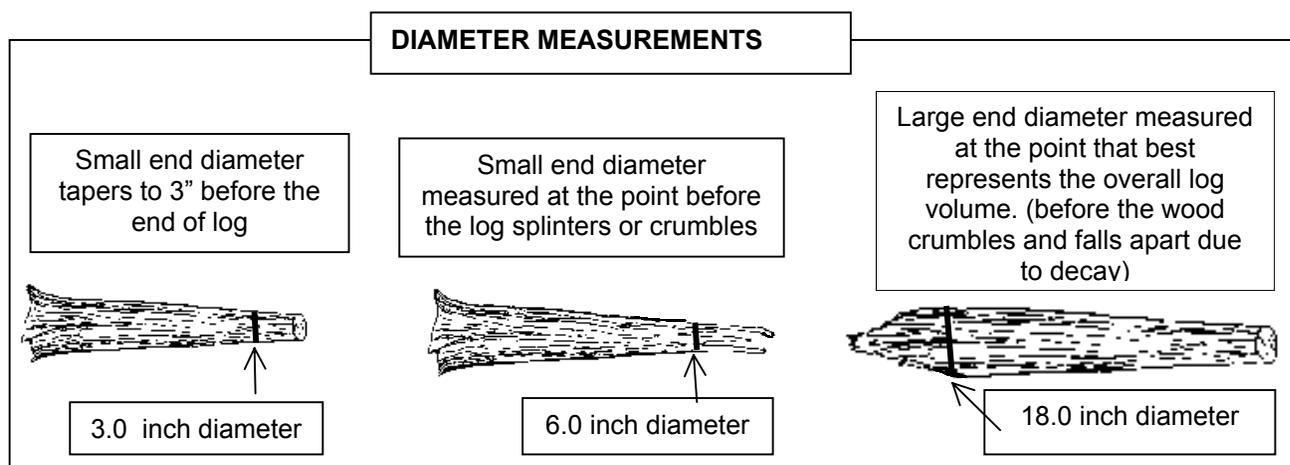

Figure 14-9. Diameter measurements
The diameter is most commonly measured by holding a tape above the log, at a position perpendicular to the length (Figure 14-9). It is useful to carry a steel carpenter's retracting tape to measure diameters. Other methods include wrapping a tape around the bole if possible, holding a straight-edge ruler above the piece, or using calipers.
Record a 3-digit code indicating the diameter at the piece's small end. The diameter is recorded to the nearest inch. The small end diameter occurs either at (1) the actual end of the piece, if the end has a diameter ≥ 3.0 inches, or (2) at the point where the piece tapers down to 3.0 inches in diameter. If the end is splintered or decomposing (sloughing off), measure the diameter at the point where it best represents the overall log volume. Use the same measuring procedures described in 14.8.5 (see Figure 14-9). Not recorded for Decay Class 5.